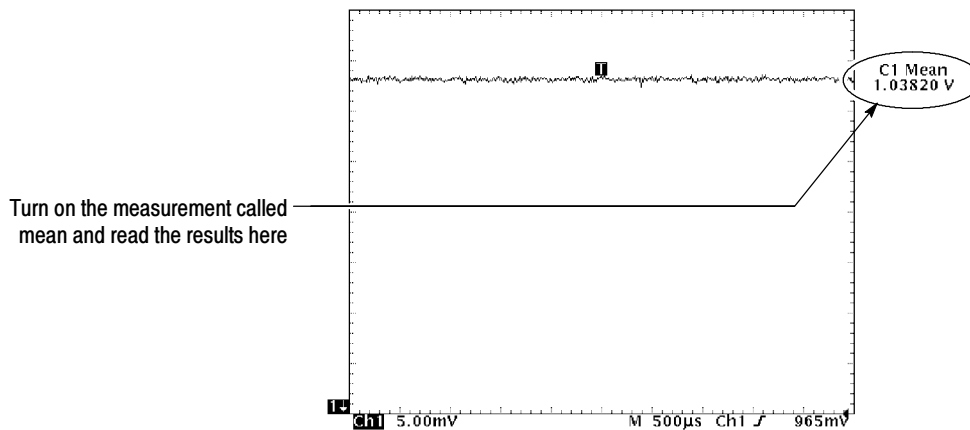

Figure 4-9: Measurement of DC accuracy at maximum offset and position
- e. *Measure the test signal:* Press **Close**. Read the measurement results at the **Mean** measurement readout. See Figure 4-9.